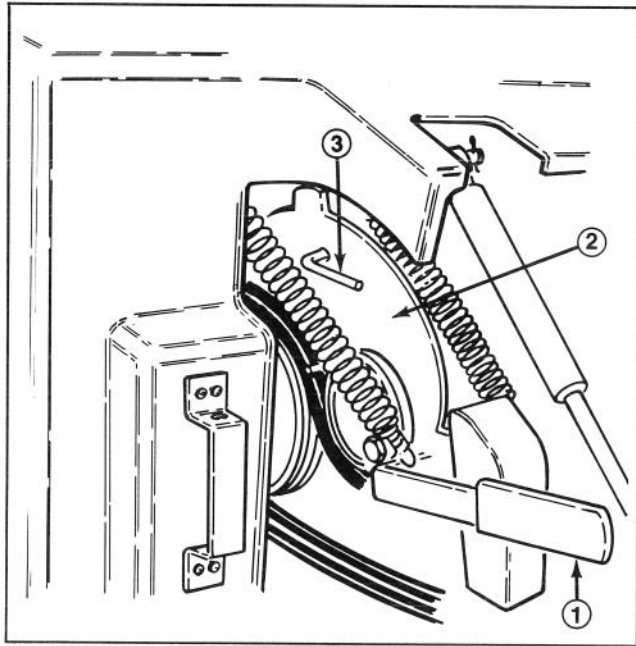

Figure 25
2. Push down on override lever until holes in lever bracket and coring head are aligned, then insert pin thru holes (Fig. 25).